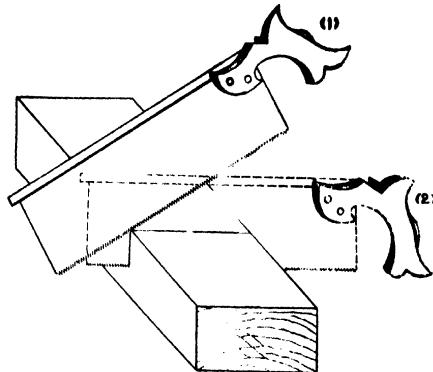

Fig. 44.
Begin by making a light pulling stroke on the end of the wood furthest from you, and follow this by a light pushing stroke. The first cut should be made with the further end of the saw held in position (1) Fig. 44.